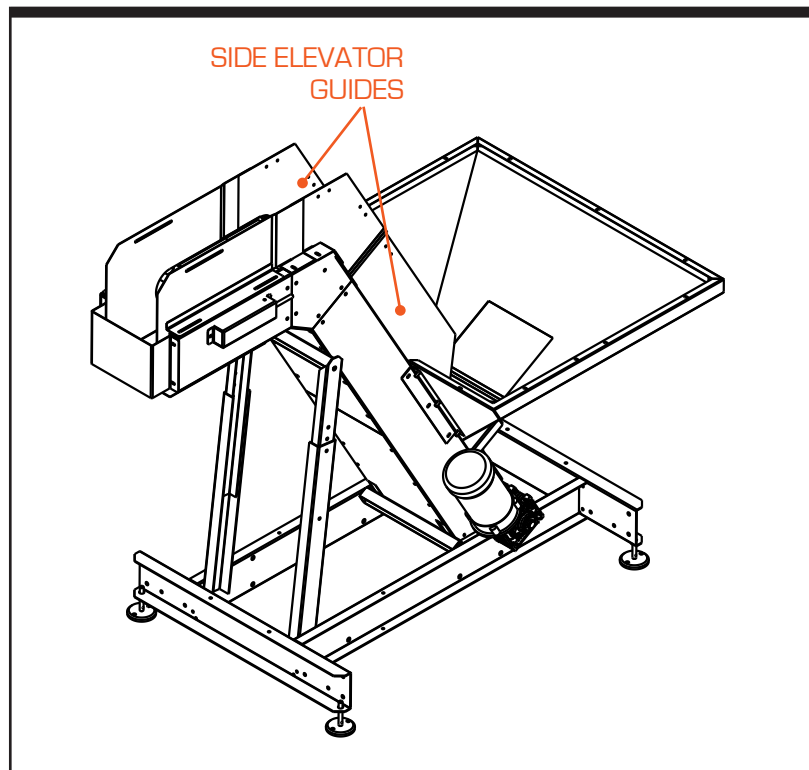

Figure 3-2. Side Guides on Elevator of Prefeeder
- Step 2. Remove Elevator Channel Side Guides/Covers.** Located on the neck of the prefeeder's elevator are side guides that overlap the chain (see Figure 3-2). Undo the bolts that holding the side guides in place, and remove the guides to access the chain (belt).